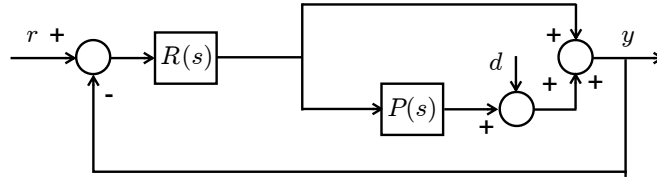

Figure 1: Control scheme
**04)** For the control scheme of Figure 1 with